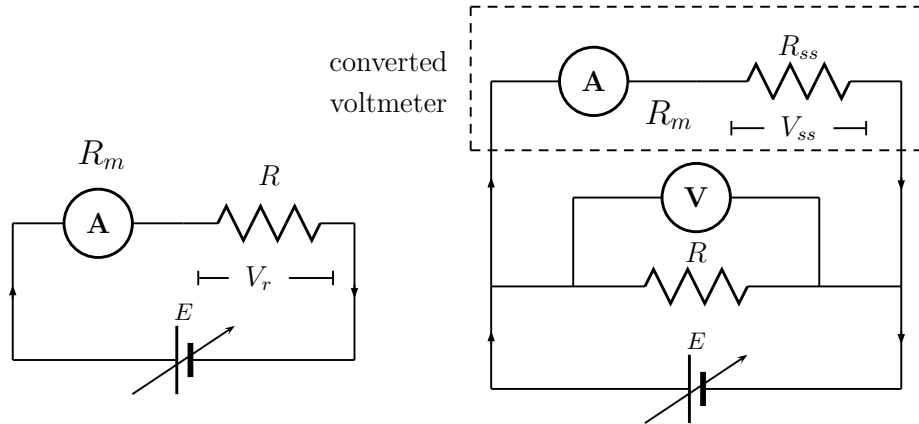

Fig 3. (a) Circuit for determination of ammeter resistance, (b) circuit for using the ammeter as voltmeter.
To calculate the series resistance R_{ss} , we first determine the ammeter resistance using the circuit Fig 3(a). Let R_m be the internal resistance of the ammeter, then the current flowing through the circuit is $i = E/(R + R_m)$, where E is the input voltage. The voltage drop across R is V_r and the current is $i_r = V_r/R$. Since $i = i_r$, the ammeter resistance R_m is obtained as,
7. Begin converting an ammeter to a voltmeter by determining the resistance R_m of the ammeter. Make the circuit connections as shown in Fig 3(a). The resistance R in series with the ammeter must be kept at large value to prevent large current from flowing through the ammeter and damaging it.
9. Calculate the series resistance R_{ss} and fabricate the circuit as shown in Fig 3(b). Use a digital voltmeter or a multimeter, set to appropriate range, as the standard voltmeter.